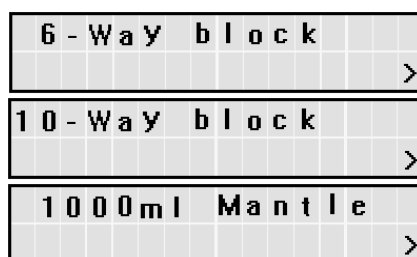

Figure 9: LCD Display of Apparatus Being Used
7.4.2. The LCD display will go through a warm and self-check routine that will take a few seconds during which the Omni Reaction Station software revision will be displayed for 5 seconds before confirmation. Upon completion of the routine the Omni Reaction Station LCD will then display the type of heating apparatus being used. (See Figure 9: LCD Display of Apparatus Being Used).